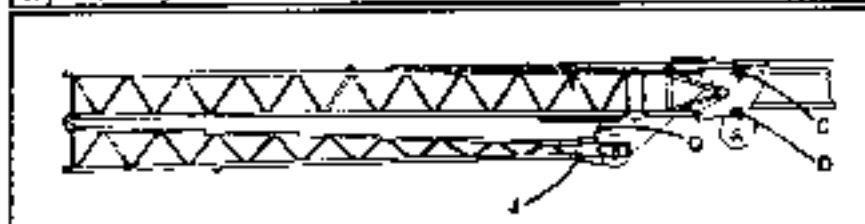

Fig. 4-42
- Step 5: Swing the folded jib around, by hand, to align with the boom head. Install pins and keepers at "C" and "D" to secure the jib to left side of boom as in Fig. 4-42.